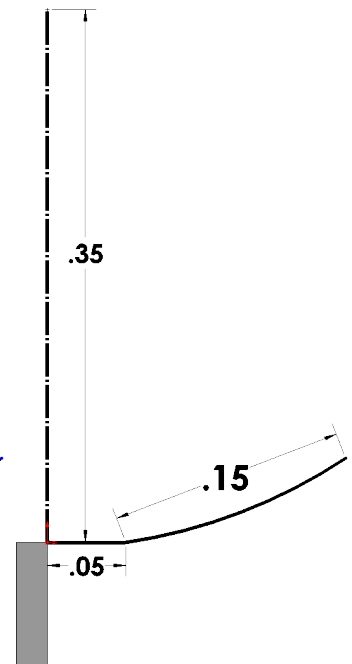

Fig. 12
Step 14. Dimension length of arc .15, Fig. 12.